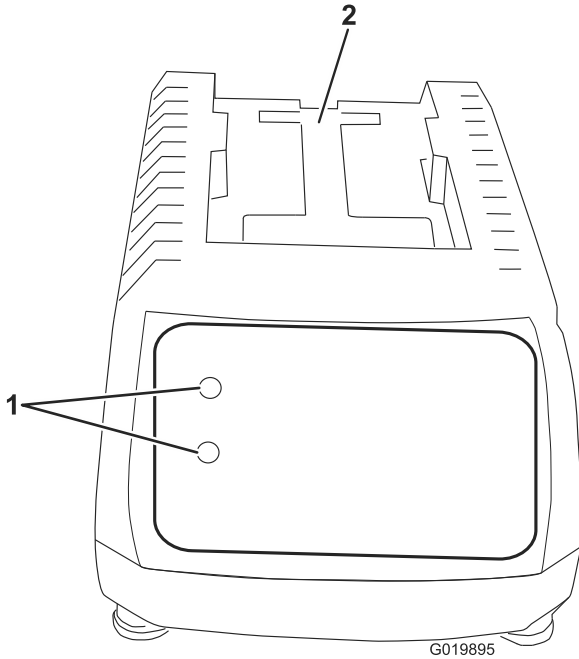
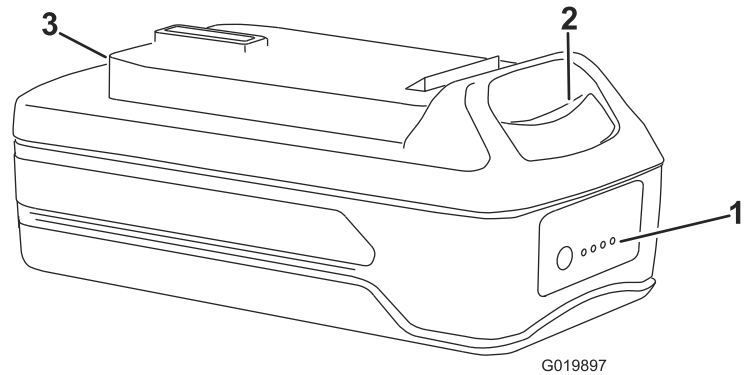

Figure 6
Figure 8
1. Turn the battery upside down and line up the battery terminal with the slot in the charger (Figure 6 and Figure 8).